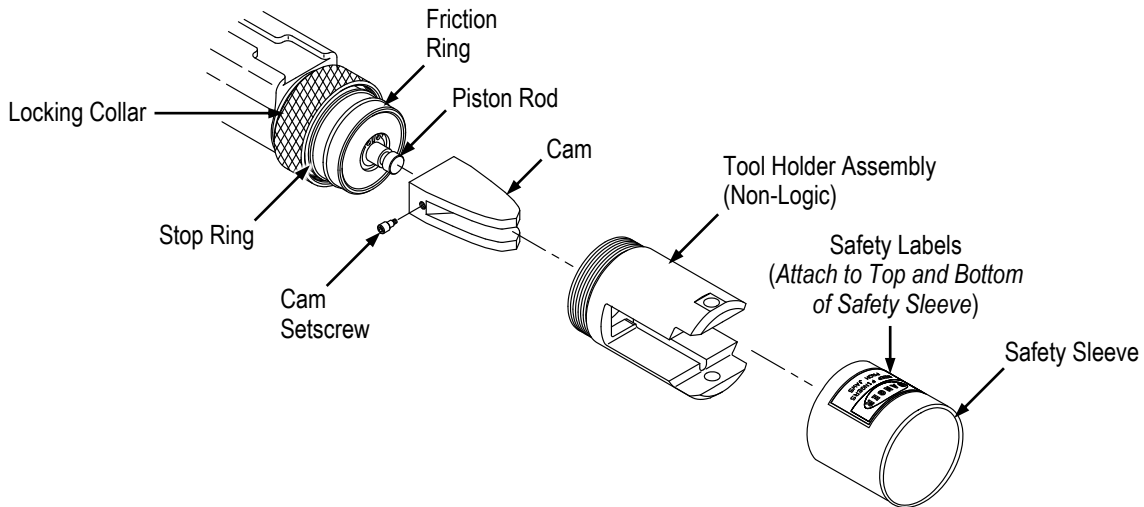

Figure 7
A strip of adhesive-backed safety labels, printed in various languages, is packaged with the tool holder assembly. Remove the appropriate label from the strip and attach it to the safety sleeve (which is supplied with the small and large tool holder assemblies) as shown in Figure 7 or directly to the adapter (which does not require the safety sleeve).
2. Place cam (with setscrew) onto piston rod as shown in Figure 7. Cam should butt against the piston rod face. If not, turn the cam setscrew *counterclockwise* until cam fits on piston rod properly.